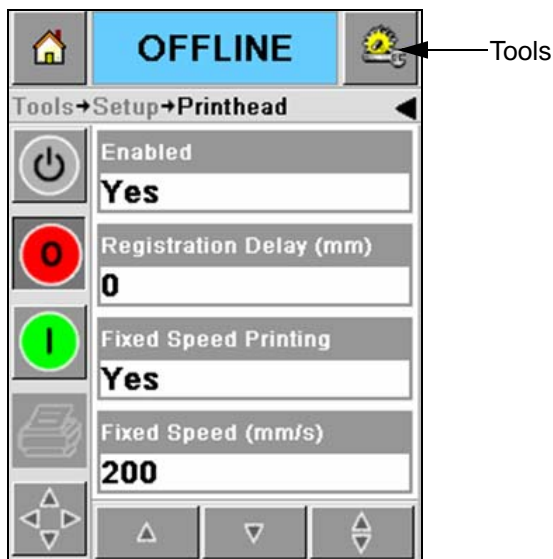

Figure 5-14: Printhead Setup Screen
- 1 Navigate to *Tools > Setup > Printhead* in the Home screen. The *Printhead* setup screen appears (Figure 5-14).